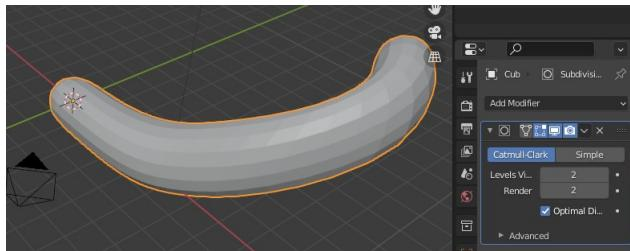

Figure 7-1 Subdivision of quads
3. Switch back to Object mode and add a subdivision modifier. The result should look like the “banana” in Figure 7-1
Sometimes it's tricky to see what's happening in Edit mode if there are modifiers, such as shrinkwrap or subdivision acting on the object. You can control which modes show or don't show the modifier by toggling the four buttons next to the name in the modifier controls, in Figure 7-1 and 7-2 you can see that three button are on but the left-most, On Cage, is off. Use the X-Ray view in order to be able to see hidden vertices and, occasionally, for modifiers such as shrinkwrap, it helps to switch On Cage on. For the subdivision modifier it is usually better to turn Realtime off, so you don't see the effect of the modifier in the 3D Viewport. Juggle these different settings as you work to keep track of what you are changing and what the final result will be.